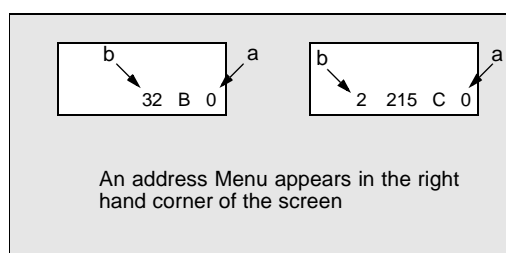

Figure 13. **Serviceman Mode Menu Adjustments.**
Note: Only the applicable settings for the Receiver serviced will be available (See a in Fig. 13).
1. Press **Channel Up/Down** on the **Remote Control** to select one of the available Service Adjustments (**a** in Fig. 13).
Note: Write Down the original value set (**b** in Fig. 13) for each address before modifying anything. It is easy to erroneously adjust the wrong item.
2. Press **Volume Up/Down** on the **Remote Control** to adjust the level of the selected Service Adjustment (**b** in Fig. 13).
1.Press Channel Up/Down on the Remote Control to select one of the available Service Adjustments (a in Fig. 13).
Note: Write Down the original value set (b in Fig. 13) for each address before modifying anything. It is easy to erroneously adjust the wrong item.
2.Press Volume Up/Down on the Remote Control to adjust the level of the selected Service Adjustment (b in Fig. 13).
1. **Press Channel Up/Down** on the **Remote Control** to select one of the available Service Adjustments (a in Fig. 13).
2. **Press Volume Up/Down** on the **Remote Control** to adjust the level of the selected Service Adjustment (b in Fig. 13).
1. Press Channel Up/Down on the Remote Control to select one of the available Service Adjustments (a in Fig. 13).
- Note:** Write Down the original value set (b in Fig. 13) for each address before modifying anything. It is easy to erroneously adjust the wrong item.
2. Press Volume Up/Down on the Remote Control to adjust the level of the selected Service Adjustment (b in Fig. 13).